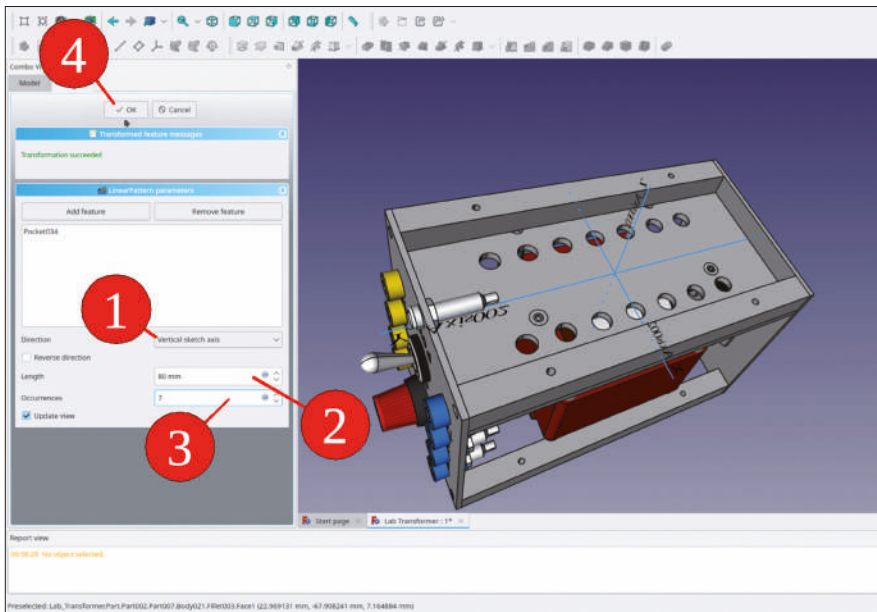

Figure 9-101
22. In 'Chassis Sheet', mark the last design state (tip), and select 'Part Design | Apply a pattern | LinearPattern' from the main menu. In the task window, select 'Vertical Sketch axis' as the direction, and set the number of occurrences to 7 (Figure 9-101). Close the task with the 'OK' button.